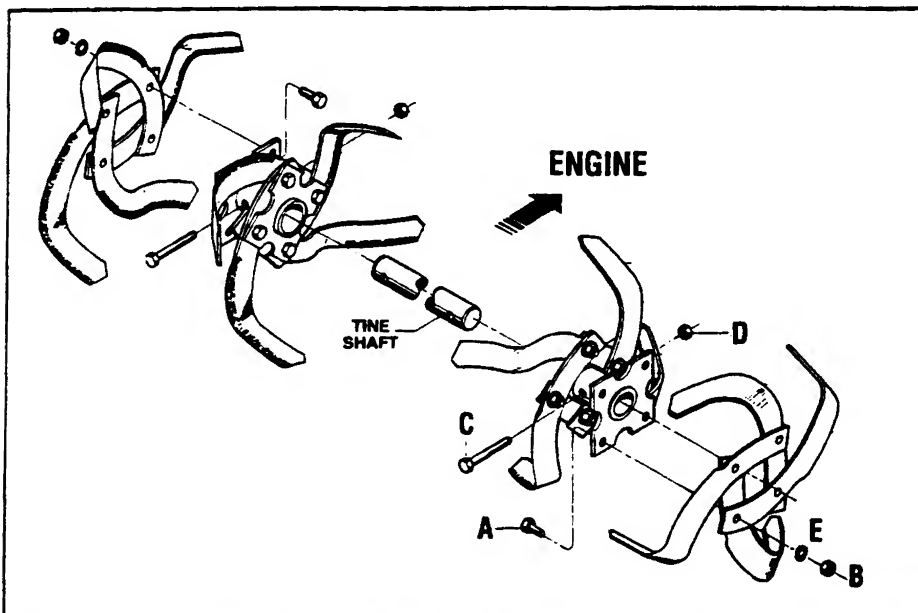

Figure 5-3: Install tines so that cutting edge of tines enter soil first when tiller moves forward.
1. With the engine shut off and the spark plug wire disconnected, remove the two screws (A, Figure 5-3), lockwashers (E) and nuts (B) that attach a single tine to a tine holder. If needed, use penetrating oil on the nuts.
2. If removing both tine assemblies, mark them "left" and "right" before removal. Remove the screw (C, Figure 5-3), lock washer (E) and locknut (D) that secure the tine assembly to the tine shaft. If necessary, use a rubber mallet to tap the tine assembly outward off the shaft.